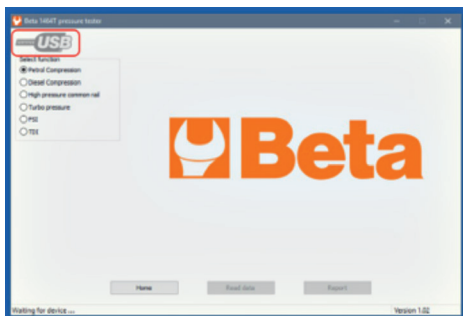
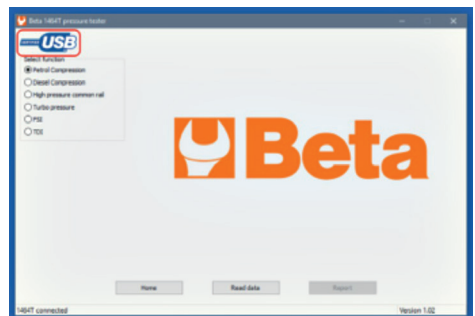

Fig.2 (1464T not connected)
Fig.3 (1464T connected)
- The USB logo on the upper right corner indicates whether the 1464T has been detected. See fig.2 and fig. 3